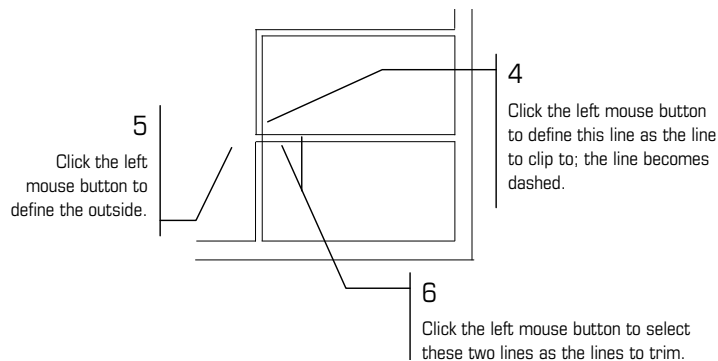

Figure 3.22: Completing a 1-line trim
4. Click on the inside wall line, shown in Figure 3.22. The line you select becomes dashed. You are prompted to *Point to outside*.